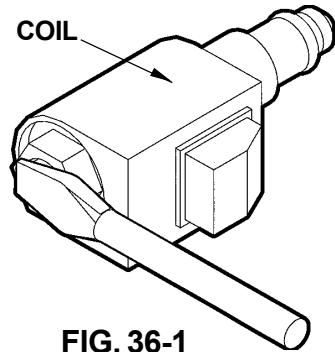

FIG. 36-1
1. Check if Solenoid Valves are constantly energized by touching a screwdriver to the top nut of the Solenoid (**FIG. 36-1**). Try pulling the screwdriver away from the solenoid. If the solenoid nut attracts the screwdriver (magnetically) without pushing the toggle switch, the control circuit is operating incorrectly. Check if toggle switch, wiring or coil are faulty.